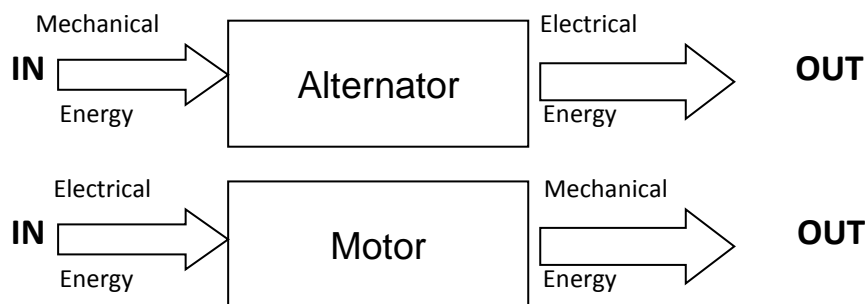

Figure 1- Power transfer of electrical machines
3. The simplest way to explain the differences between alternators and synchronous motors is to use the following power transfer diagrams. In figure 1 – an alternator is converting mechanical energy in to electrical energy and a motor is converting electrical energy in to mechanical energy.